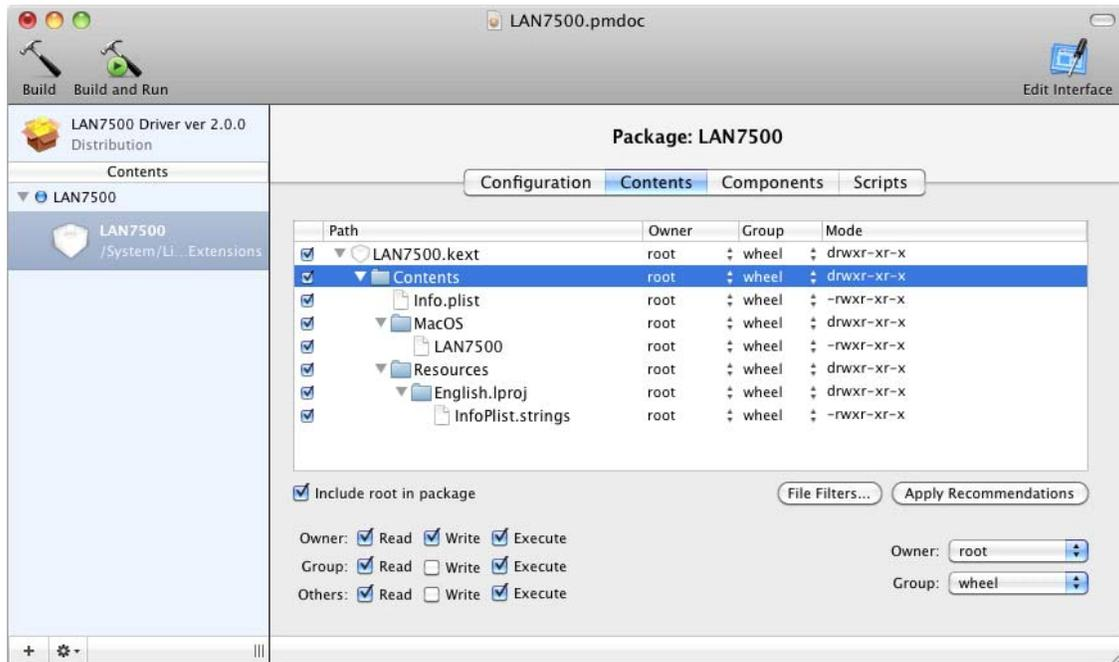

Figure 8.10 Content Information
- Modify the file attributes under “Contents” heading as shown in Figure 8.10.